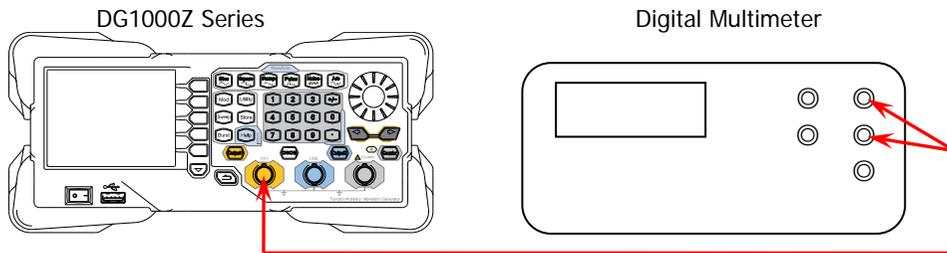

Figure 2-3 Connect DG1000Z and the Digital Multimeter
1. Make sure that DG1000Z has been warmed up for at least 30 minutes. Connect the channel output terminal of DG1000Z (take CH1 as an example, the calibration method is also applicable to CH2) and the voltage input terminals of the digital multimeter using a BNC-Dual banana plug connecting wire, as shown in Figure 2-3.
Press **Meas Val** and the MeasValue column of the point selected becomes editable. At this point, use the numeric keyboard or the knob and direction keys to input the current measurement value of the digital multimeter. Press **Input Val** to write the measurement value into the system. At this point, "Please remove the 50 ohm load." is displayed on the instrument screen and the cursor switches to the ID column. Please remove the 50Ω load between DG1000Z and the digital multimeter and connect DG1000Z and the digital multimeter according to Figure 2-3.